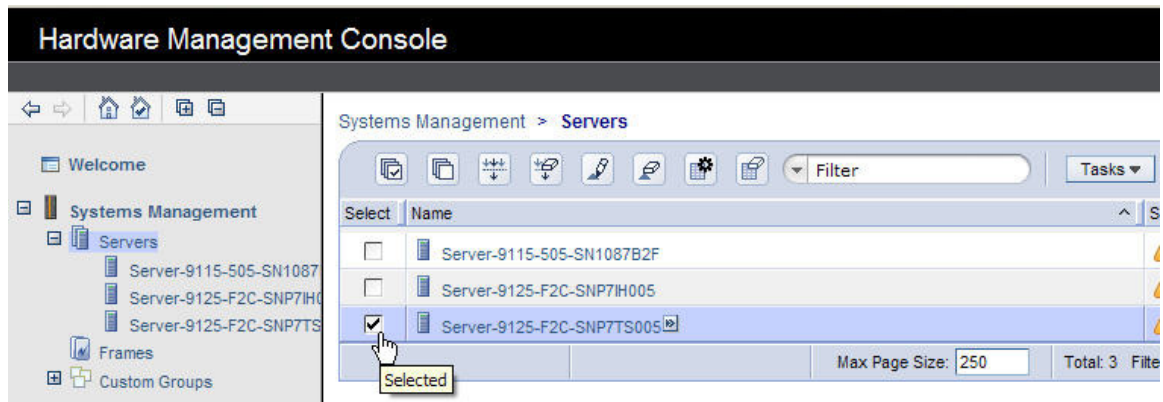

Figure 5 HMC CEC Drawer Selection
STEP 11 Place a checkmark in the **Select** column for the Server with the CEC Drawer to be serviced. See Figure 5 .